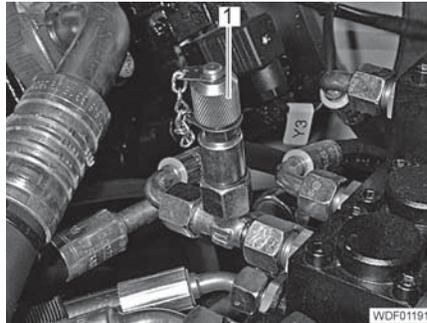

Fig. 37 Test connection
- Install the T-screw connection with the test adapter (Fig. 37,1) in **one** hydraulic line between the pilot control and the control valve.